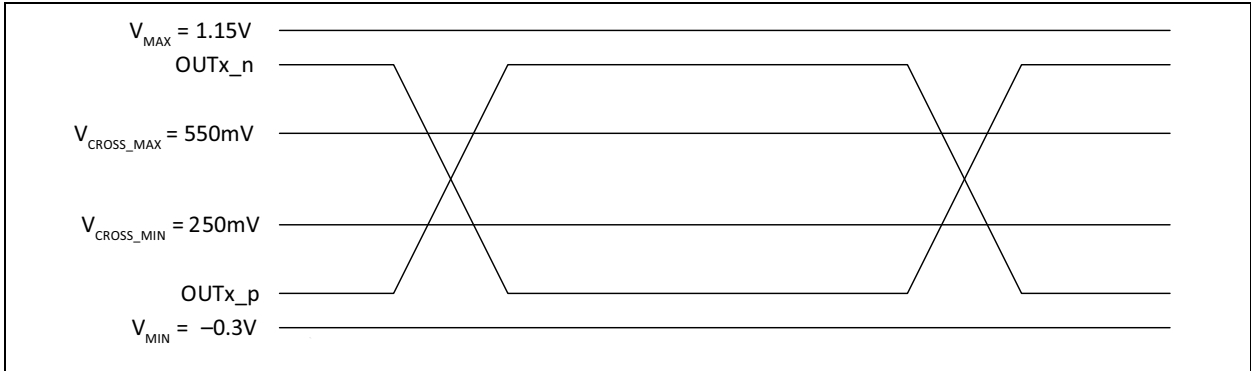

FIGURE 1-1: Single-Ended Measurement Points for Absolute Cross Point and Swing.
- 4: Measured at crossing point where the instantaneous voltage value of the rising edge of $OUTx_p$ equals the falling edge of $OUTx_n$. See Figure 1-1.
- 5: Refers to the total variation from the lowest crossing point to the highest, regardless of which edge is crossing. Refers to all crossing points for this measurement. See Figure 1-1.
- 8: Defined as the maximum instantaneous voltage including overshoot. See Figure 1-1.
- 9: Defined as the minimum instantaneous voltage including undershoot. See Figure 1-1.